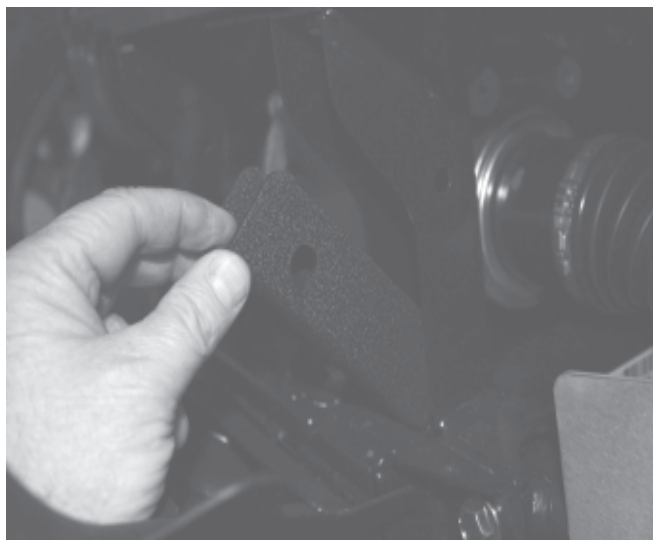

Figure 1
3. Place support brackets (2A) inside the frame of the UTV. Align the holes in the support brackets with the holes in the UTV frame as shown in figures 1 and 2.